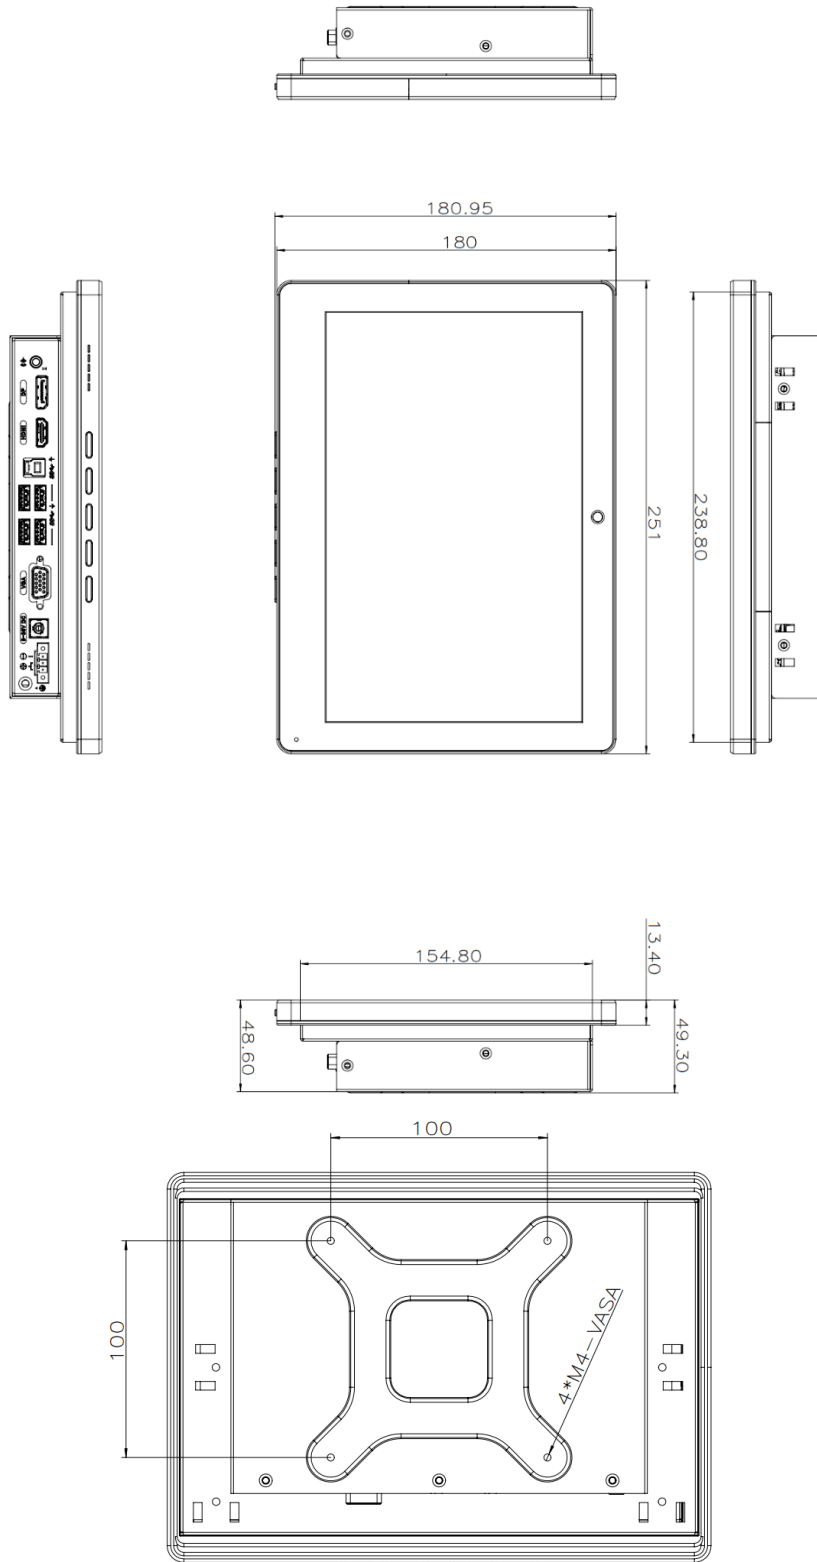

Figure 1-7: DM2-W101G(L) Physical Dimensions (Unit: mm)
1.9.1 DM2-W101(L) Physical Dimensions
The physical dimensions of the DM2-W101G(L) are shown in the **Figure 1-7**.